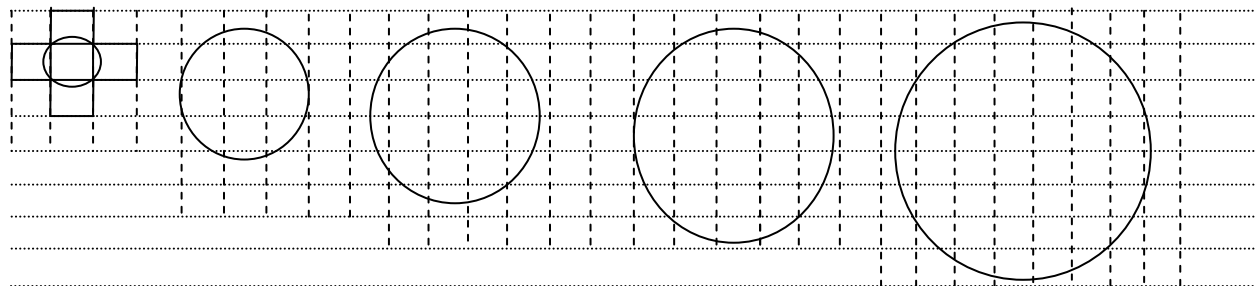

Fig.4 Measuring the area of circles on large paper (ex.: For the first circle $A_{min}=1div^2$ and $A_{max}=5div^2$)
- Follow by drawing vertical and horizontal **equidistant** parallel lines at distance 1div, as shown in figure 4 and after that draw the other 4 circles with increasing diameter to the right (see fig.4).
Fig.7 Remove all objects and pieces of string from the paper and erase the writings on it. Then, draw a square inside the smallest circle. Cut a small piece of string or thin wire with length equal to the side of the small square. Label it as 1Div. Next, draw parallel lines at distance 1Div from each other as shown in figure 4.